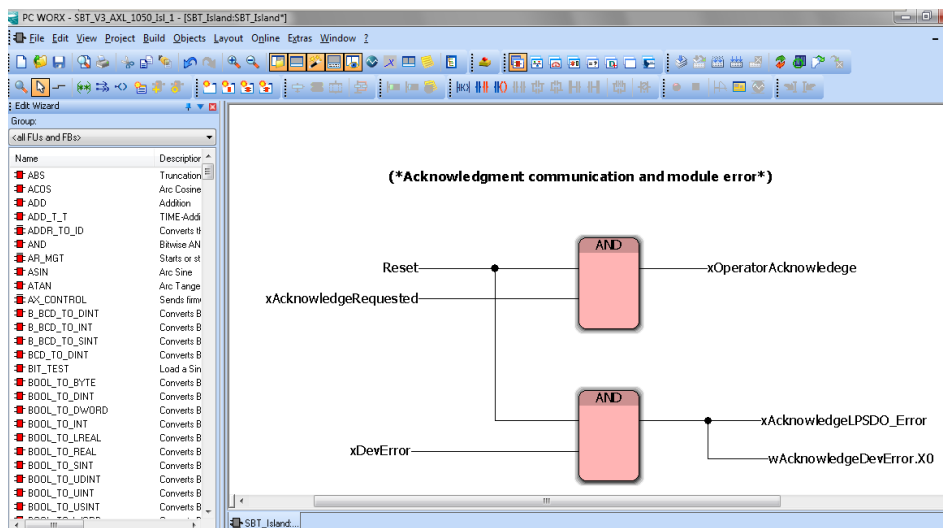

Figure 3-41 Program for error acknowledgment
- Create the program shown in Figure 3-41 in order to acknowledge communication and module errors for the AXL F LP5DO8/3 1F and AXL F SSD18/4 1F modules.